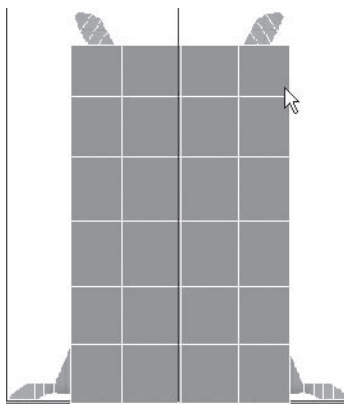

FIGURE 3.58 Polygon sack divided.
24. In Front view, hold down the Shift key, press and hold the left mouse button, and drag to cut the sack. Cut the sack into four parts of equal size horizontally and six parts of equal size vertically (see Figure 3.58).